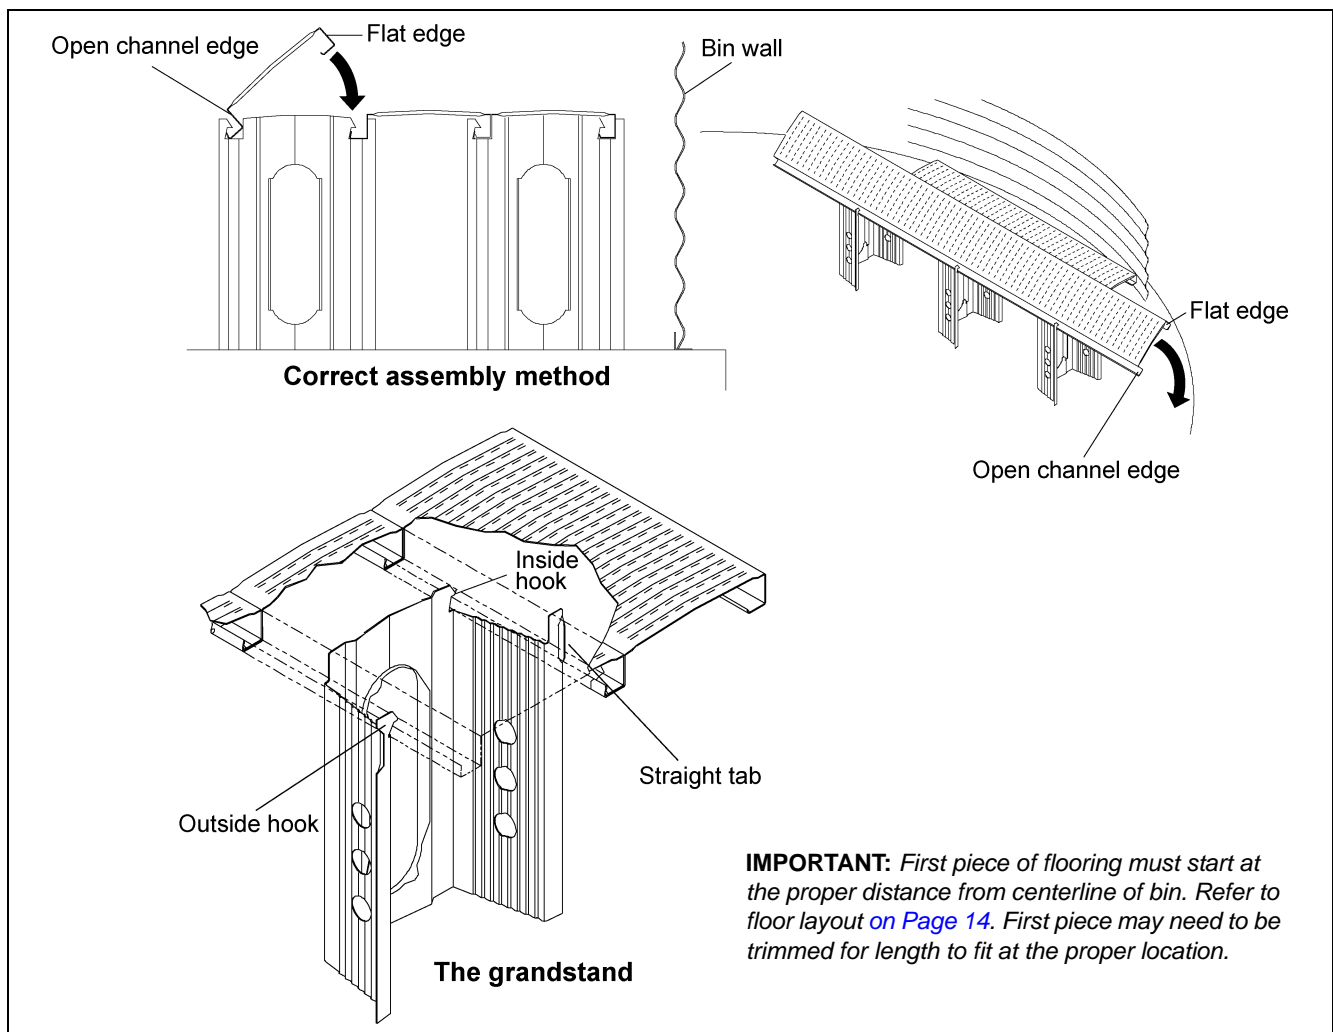
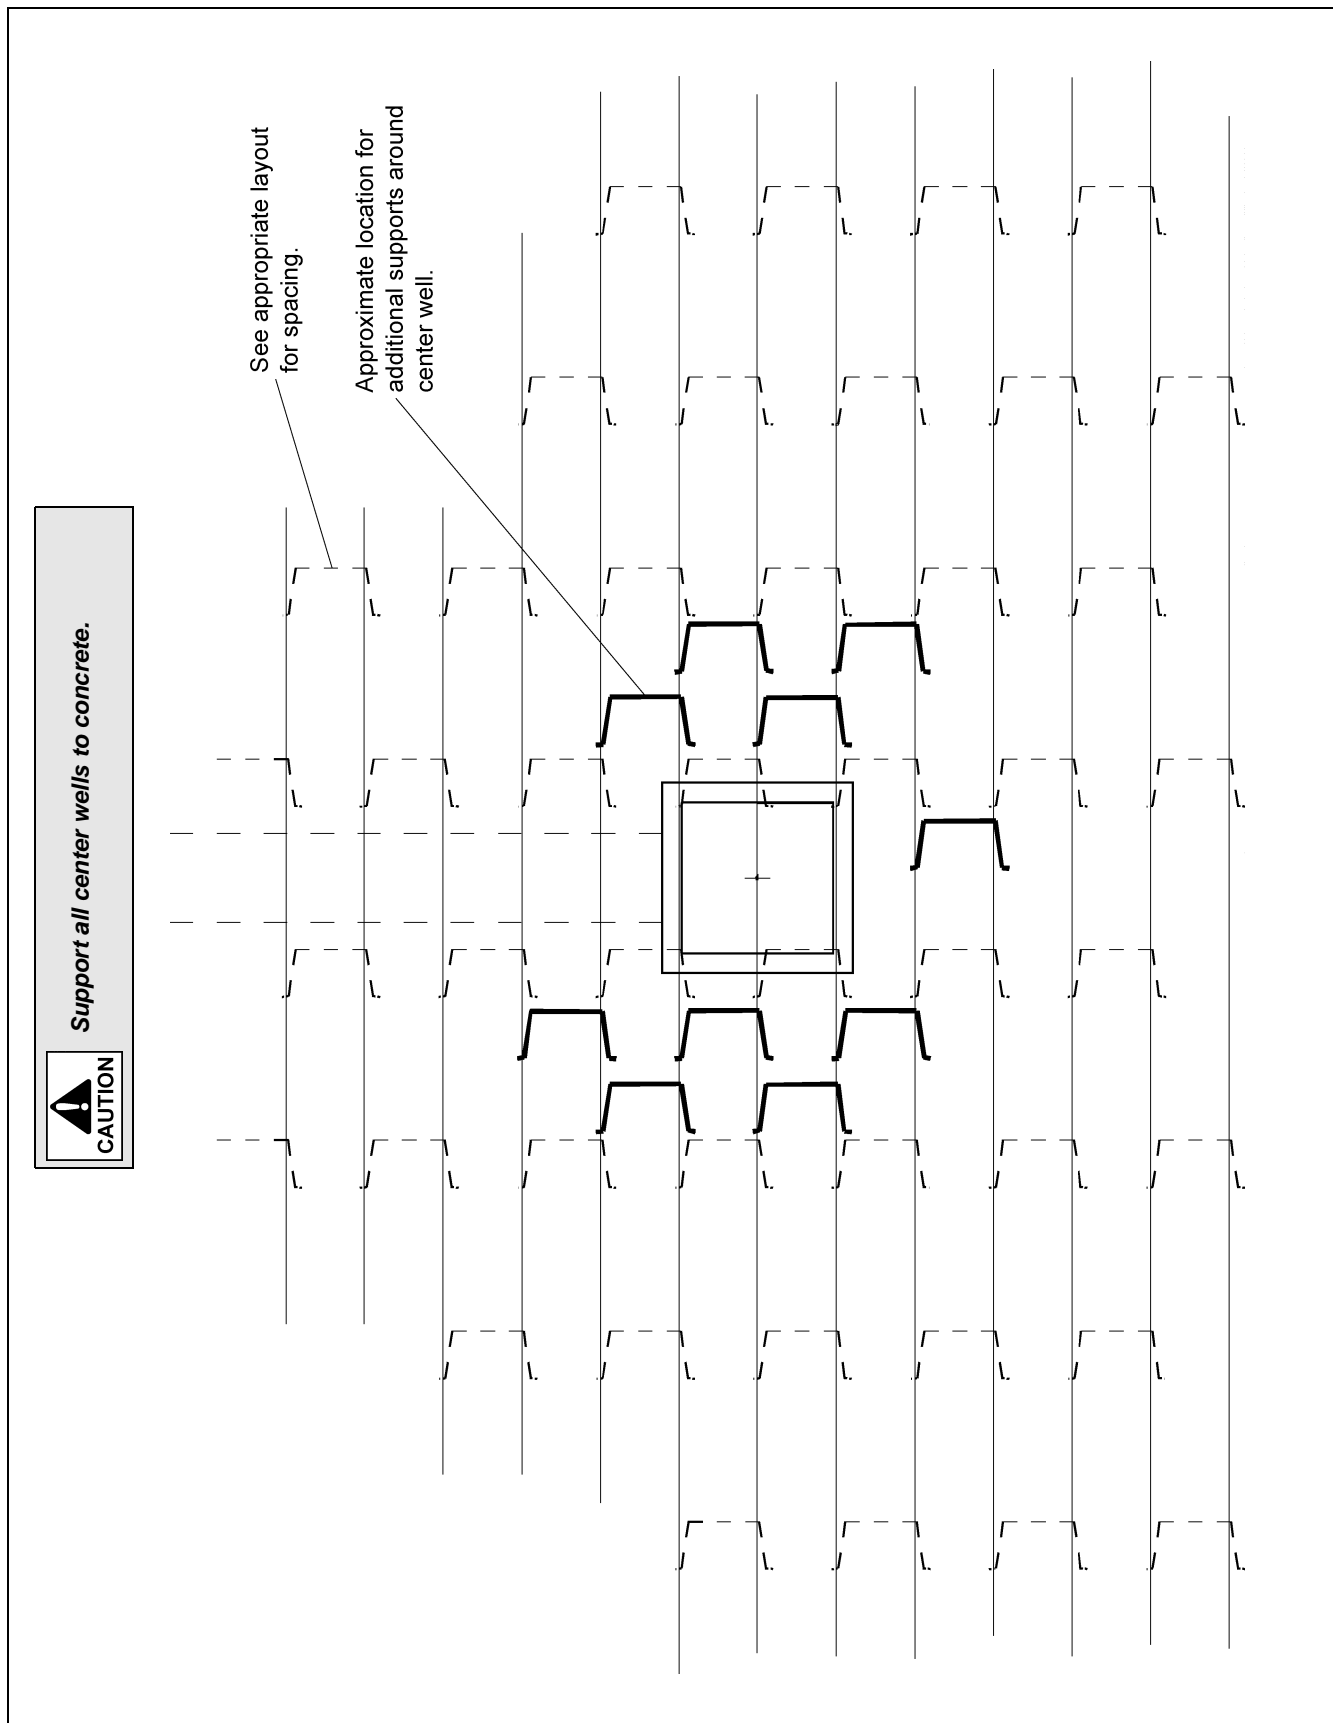
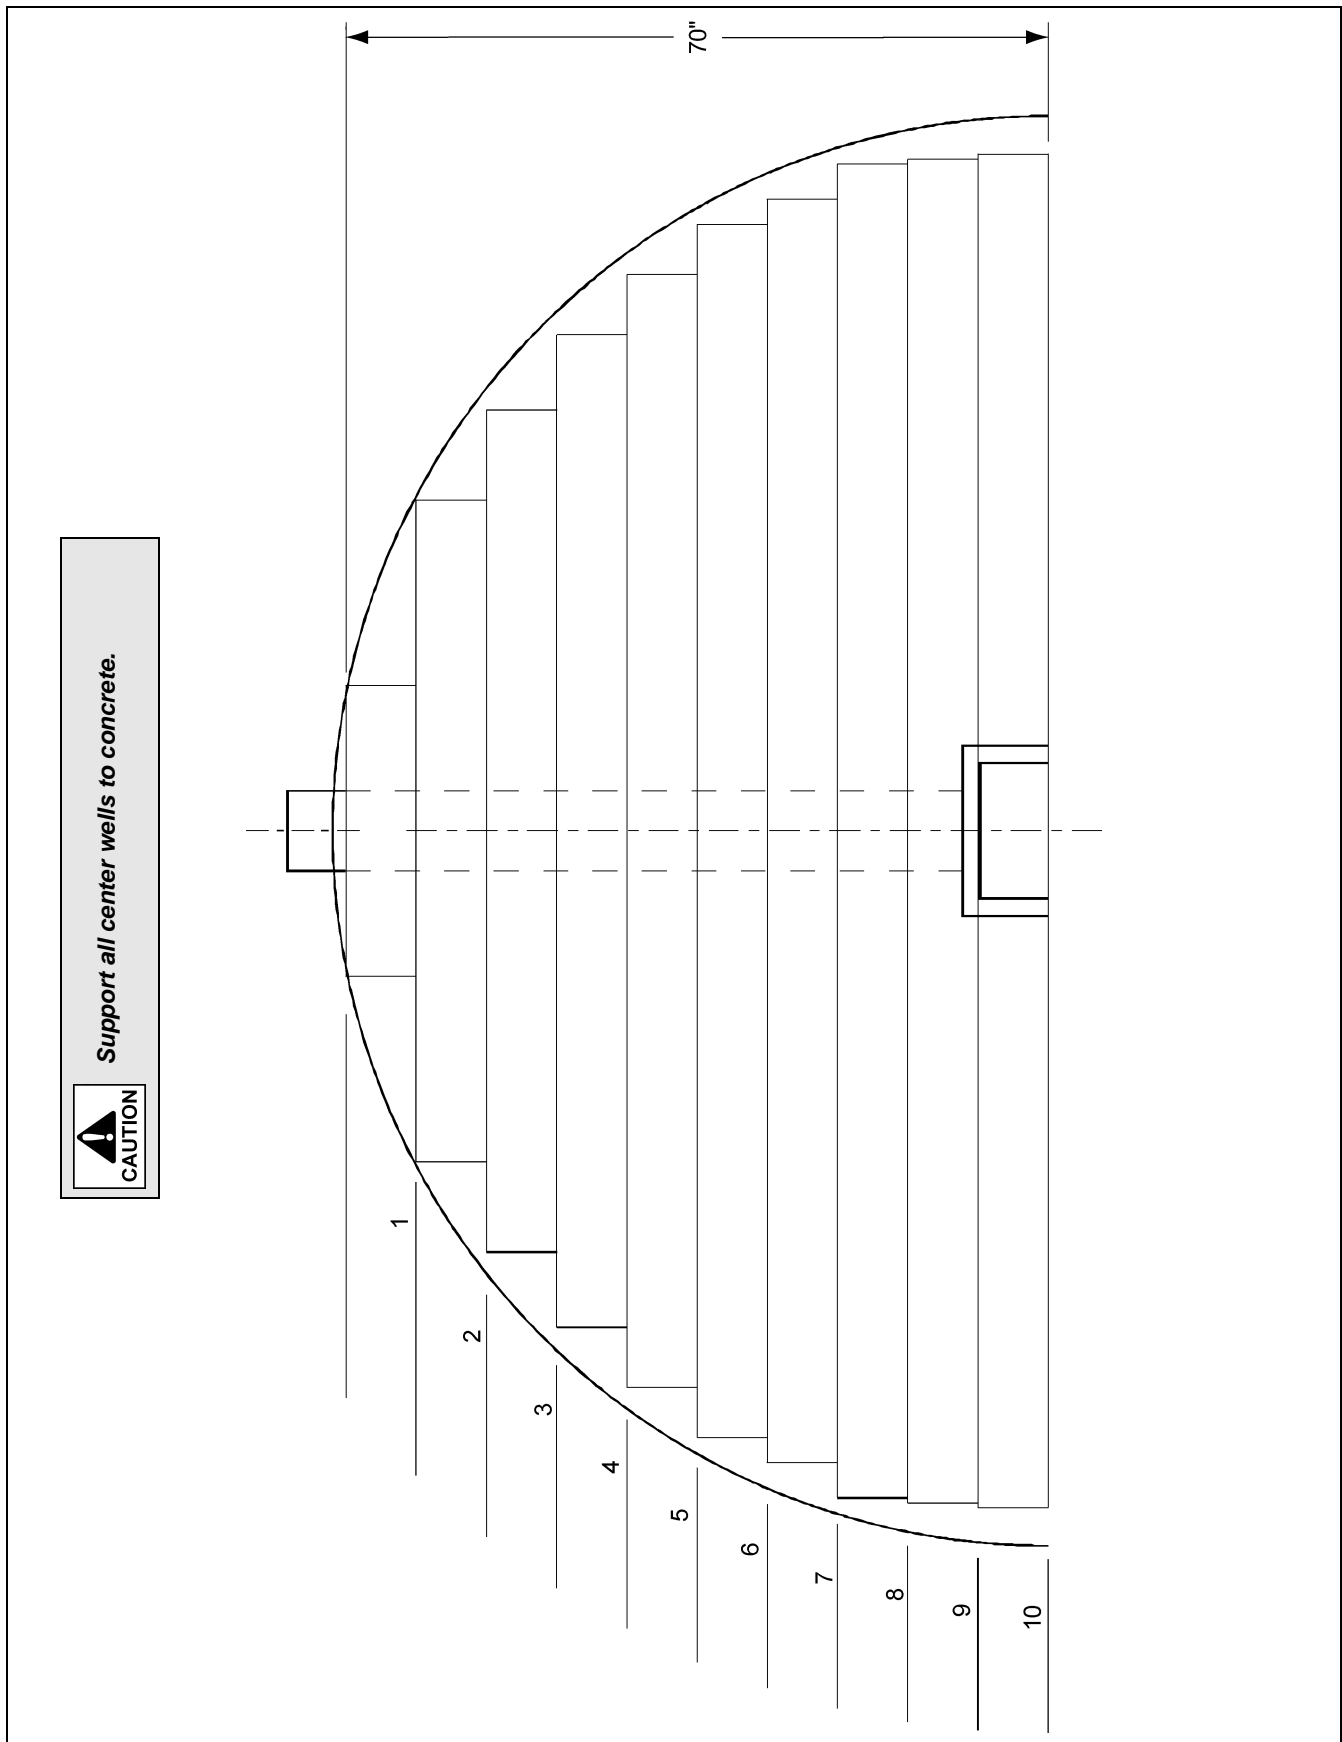

Figure 2C
Figure 5A
Figure 6A
4. Install flooring starting at the bin wall on the opposite side of the unload auger. Floor planks should be placed perpendicular to the unload auger with the outside edge the correct distance from the center of the bin. (See Figure 6A on Page 14.) Be sure the flat edge of the floor plank is facing the bin wall and the open channel edge is facing towards the center of the bin. (See Figure 2C.) Position the supports for the first/shortest floor plank according to the number of bin rings and corrugation as shown in the illustrations on Pages 21-26 or stated in the charts on Pages 27-28. Attach the flashing to flooring and bin wall to hold plank in place. (See Page 12 for flashing installation.)
5. **POSITION THE NEXT ROW OF SUPPORTS ACCORDING TO THE CHALK LINES** and support layout. The straight tab should “snap” under the first (previous) floor piece. After the supports in the row are correctly positioned, install the next floor piece by hooking the open channel edge under the outside hooks of the floor supports. Push down sharply on the edge of the floor piece until it snaps into the previous floor piece. (See Figure 2C.) Continue this process for the rest of the floor cutting planks for center and intermediate wells as needed. See Figure 5A on Page 13 for center well support locations.